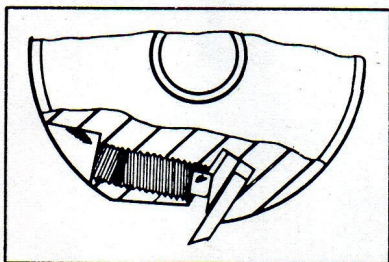

FIG. 7
2. Place the blades and wedges in the cutter head so that the set screws will tighten against the slot in the wedge (see Figure 7) which in turn clamps the blade in place. The bevel on the blade should be on the side away from the set screws and wedge. Tighten the set screws only enough to grip the blades lightly, yet allow moving of the blades for proper setting.